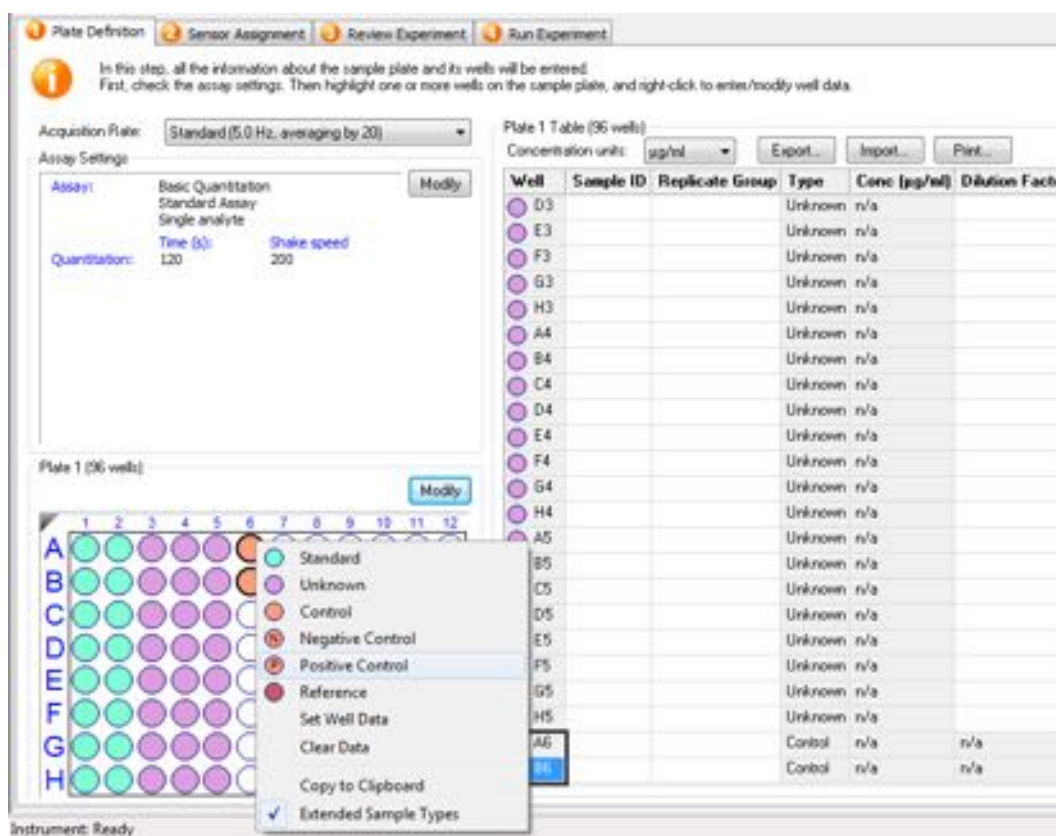

Figure 5-13: Designate Controls or Reference Wells
- To designate controls, select the control wells and click **Control** (below the **Sample Plate Map**), or right-click and select **Control**. Positive and Negative Control types can be assigned using right-click only if **extended sample types** is checked (Figure 5-13).
The wells are marked in the **Sample Plate Map** and the **Sample Plate Table** is updated (Figure 5-13).